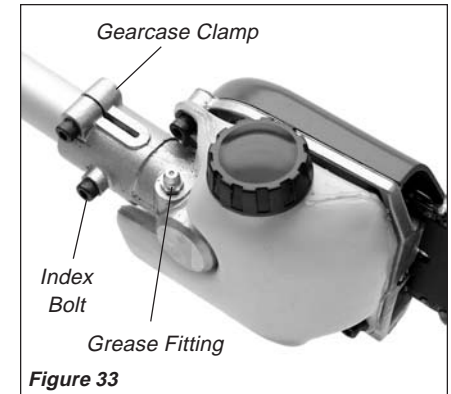

Figure 33
- **Lubricate the gearcase.** To perform this operation, first remove the gearcase from the upper outer tube as follows (Figure 33):